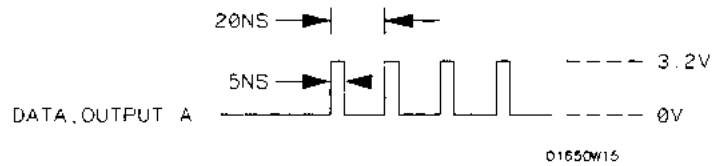

Figure 3-31. Waveform for Glitch Test
- Adjust the pulse generator for the output in figure 3-31.